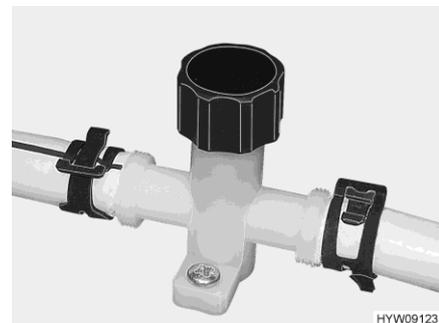

Fig. 116 Drain cock (water pipe)
- Close the drain cocks. In order to do this, turn the cap of the drain cock (Fig. 116) in a clockwise direction.